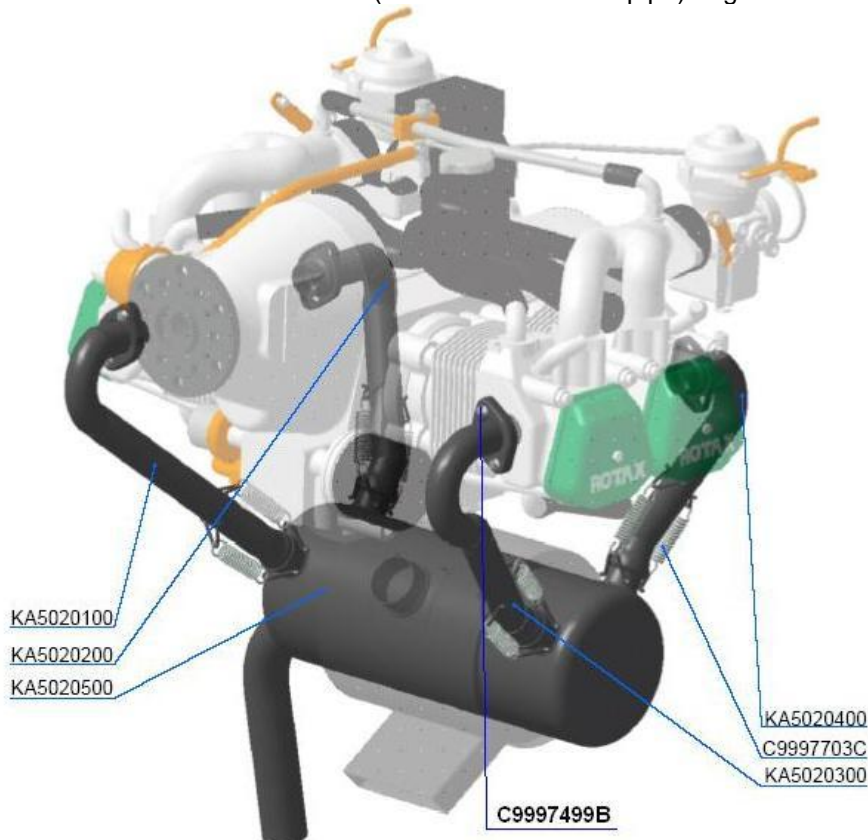

Fig. 10
- d. Disconnect the springs C9997703C from the muffler KA5020500 (Muffler with exhaust pipe). Fig. 10.
- f. Remove the muffler KA5020500 (Muffler with exhaust pipe). Fig. 10.